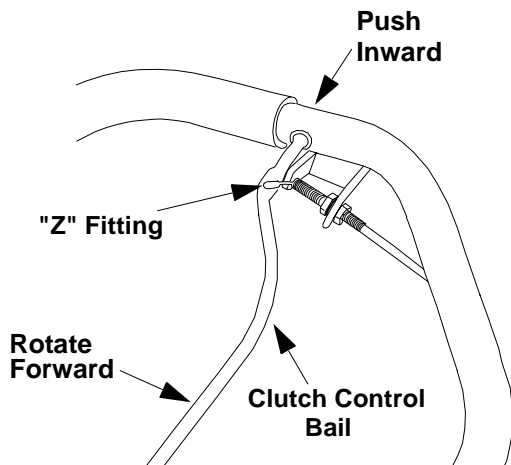

Figure 6
1. Route the clutch cable to the left side of the tiller, and underneath the handle. Push the "Z" end of the cable into the hole in the clutch control bail. You will need to attach the "Z" end from the inside to the outside. (See Figure 6).
2. Push the clutch control bail inward and rotate it forward past the stop. (See Figure 6).
3. Unthread the top nut from the cable casing. Slip the wire through the slot on the cable bracket on the handle. Push the end of the casing up through the cable bracket. Rethread the hex nut on the end of the casing. Do not tighten at this time. (See Figure 6).